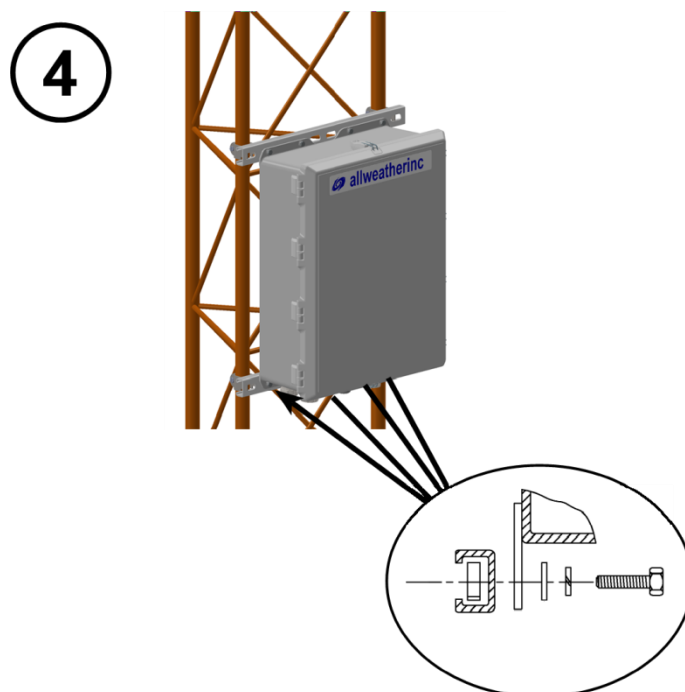

Figure 5. Secure Bottom Unistrut to Enclosure
4. Line up and center a Unistrut with the bottom of the DCP electronics enclosure and secure the enclosure to the Unistrut using the mounting hardware provided (Figure 5).